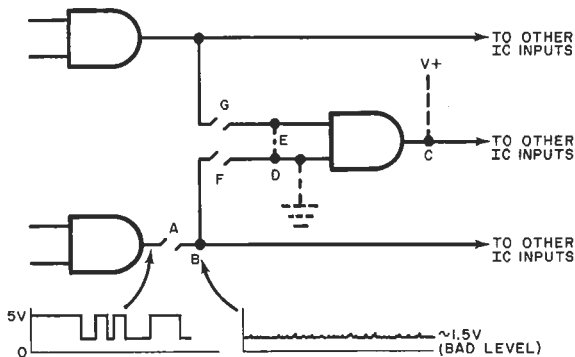

Fig. 6. Five steps to follow in isolating the most common faults in digital logic circuits.
Checking Logic Circuits. The most common defects found in digital circuits are shown in Fig. 6. The following five steps, performed in the sequence shown, will isolate the trouble quickly.
2. Check for an open bond in the IC driving the failed node. An open output at A in Fig. 6 would cause the node at B to float to a bad level of 1.4 to 1.5 volts. Inputs connected to B would interpret this as a high level, but a logic probe would not be fooled! It would indicate a bad level. The IC driving the node should be replaced.
3. If the node is not at a bad level, then test for a short to V+ (point C) or ground (D). Inject a pulse at the suspect node while monitoring the same node with a probe. The pulser is powerful enough to override even a low-impedance TTL output, but it is not sufficiently powerful to cause a change of state on the V+ or ground bus. Therefore, the absence of a pulse indicates that the node is shorted to V+ if it is high or to ground if it is low.
4. Check for a short between two nodes (E in Fig. 6). Pulse one failing node and observe each of the other fail-
5. If you still have not isolated the problem, check for an open input bond (F in Fig. 6), a failure of the internal steering circuitry of the IC, or an open in the circuit outside the IC (G in Fig. 6).